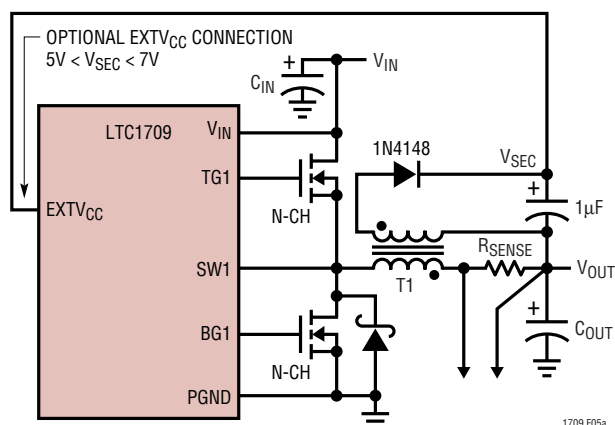
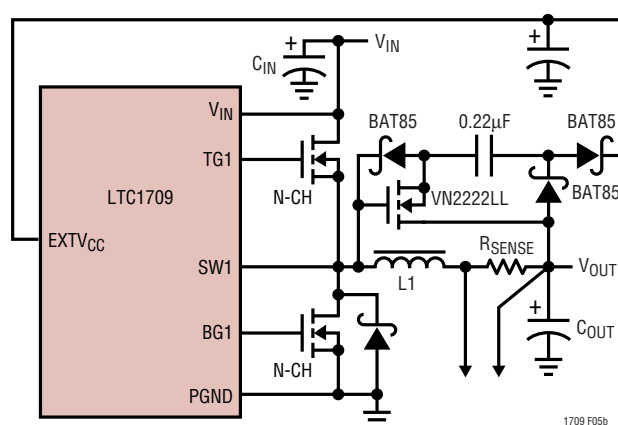

Figure 5a. Secondary Output Loop with  $EXTV_{CC}$  Connection
Figure 5b. Capacitive Charge Pump for  $EXTV_{CC}$
4.7V but less than 7V. This can be done with either the inductive boost winding as shown in Figure 5a or the capacitive charge pump shown in Figure 5b. The charge pump has the advantage of simple magnetics.